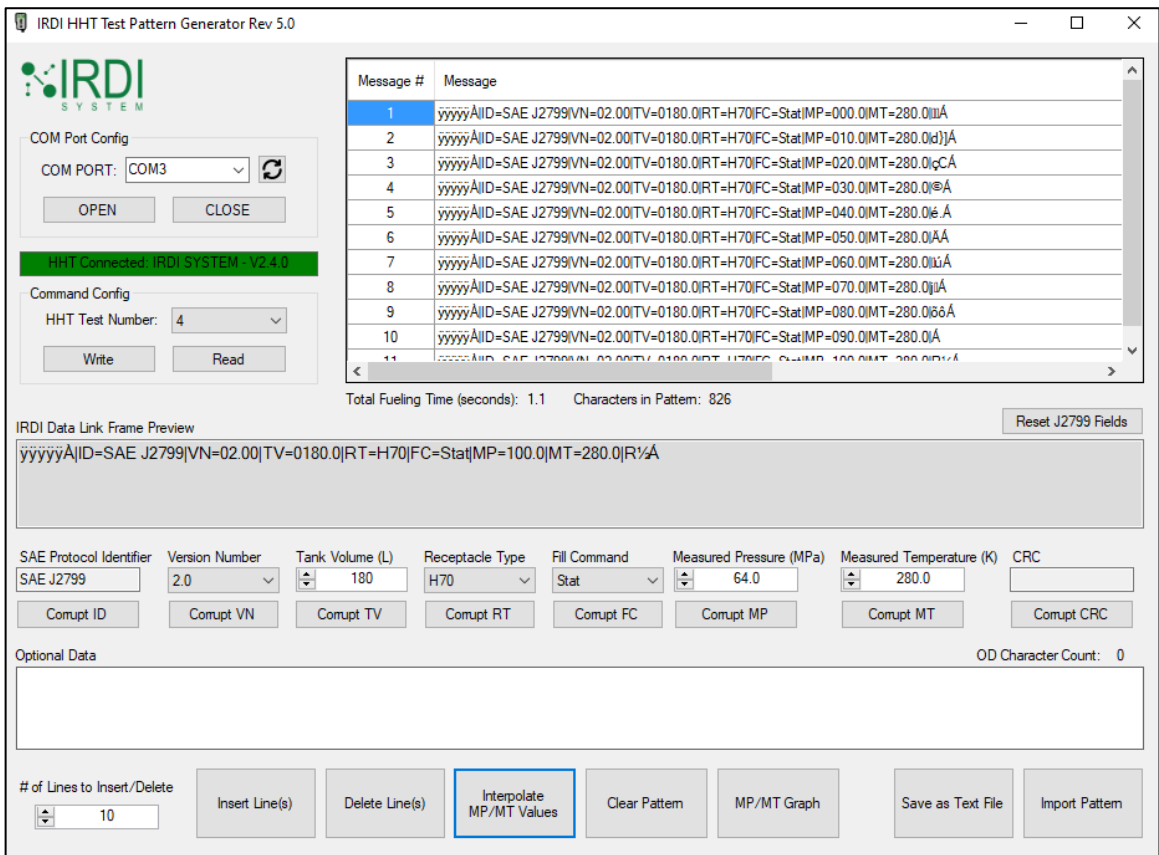

FIGURE 6-42 HHT TEST PATTERN GENERATOR SOFTWARE –MP LINES ADDED (STEP)
STEP 7	View the interpolated test pattern on the main screen, in the top right area – see Figure 6-42. You can now program the HHT with this values – refer to Section 6.5 for details.